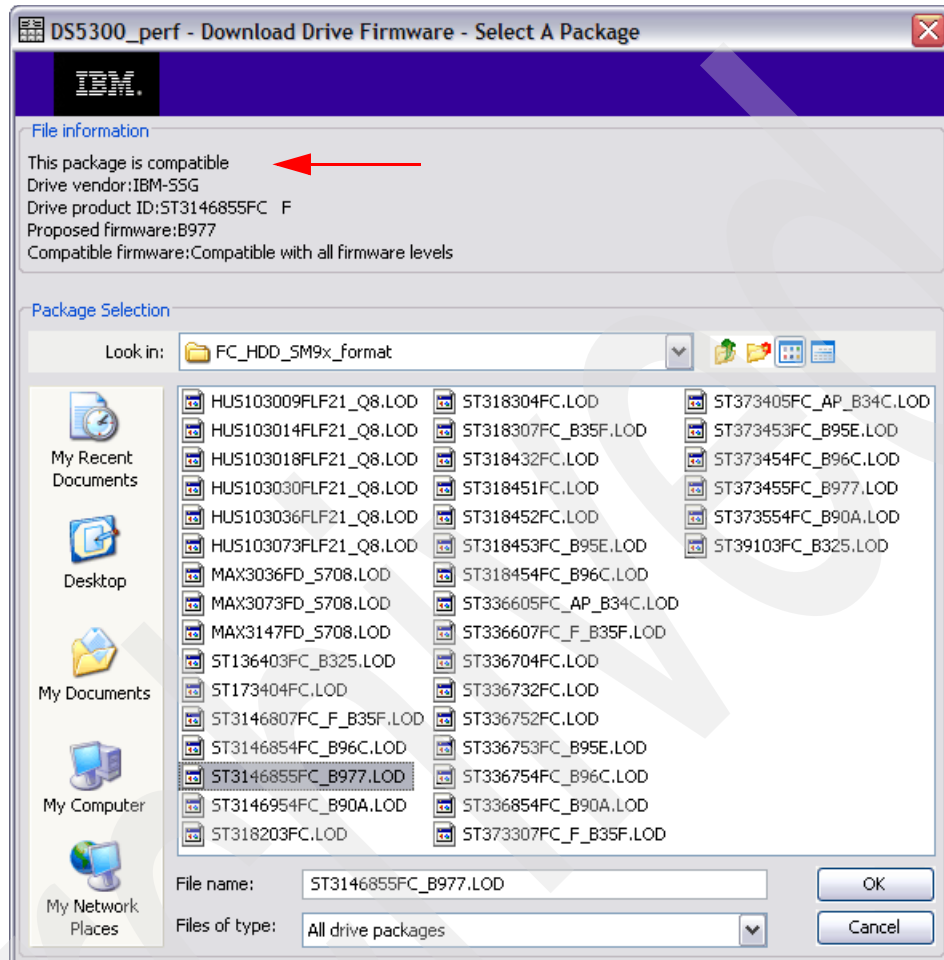
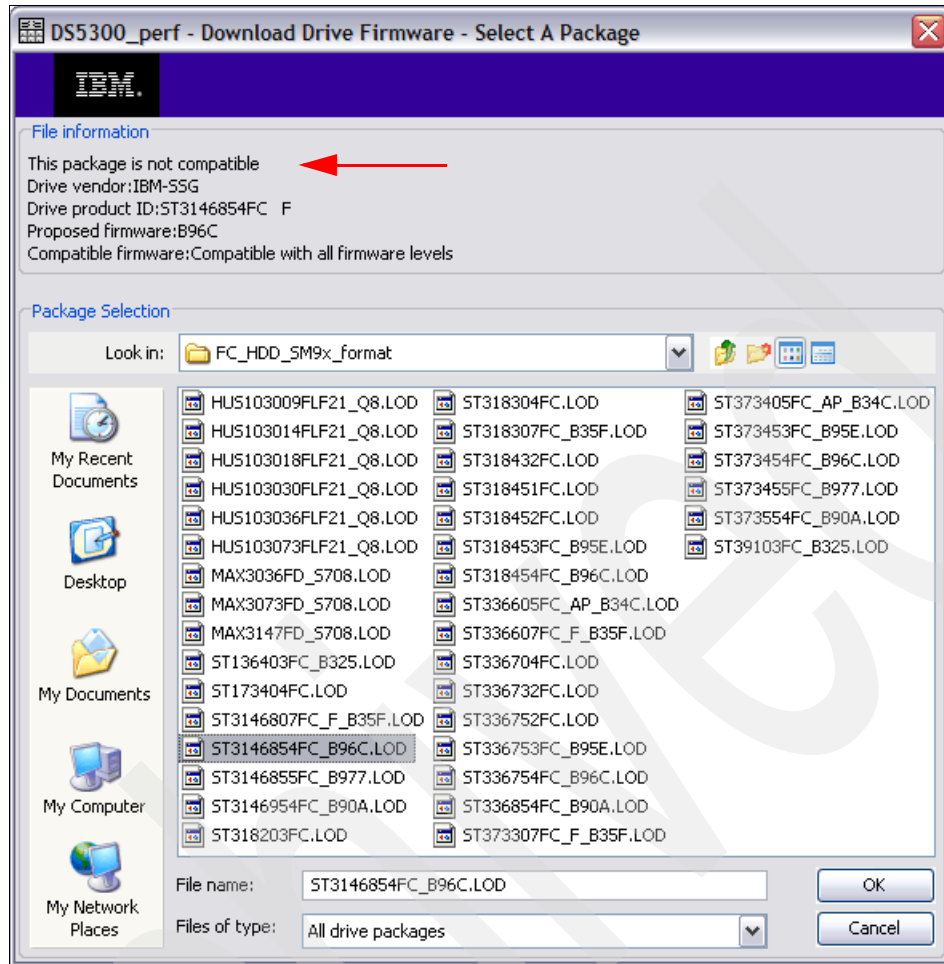

Figure 7-24 Drive firmware: Compatible
Figure 7-25 Drive firmware: Incompatible
4. The window shown in Figure 7-24 opens. Here you can browse and choose drive firmware packages that you previously downloaded. This window shows if a firmware package is compatible in the File Information pane. Figure 7-24 shows compatible firmware and Figure 7-25 on page 354 shows incompatible firmware.